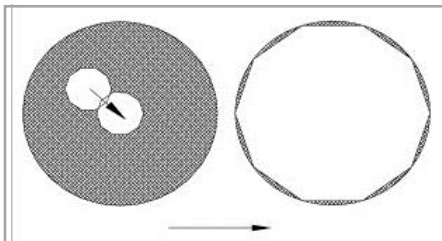

Fig. 20
Observe the image through the eyepiece and adjust the field diaphragm centering screws ② on both sides of the illuminator until the image is in the center (Fig. 20).